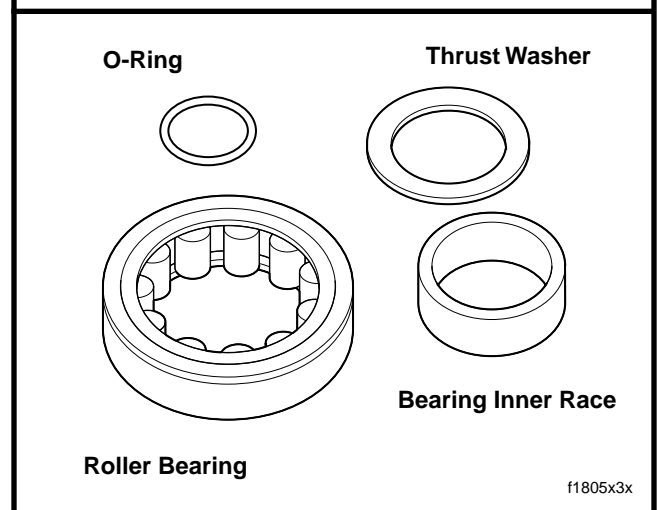

Figure 1. Rear Cam Roller Bearing Kit (P/N 8983)
1. Obtain new rear cam roller bearing kit (Part No. 8983). See Figure 1.